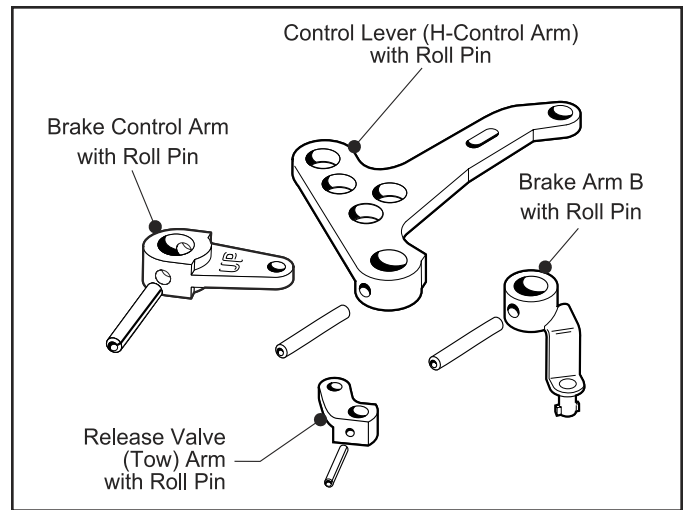

Fig. 4, Arms and Roll Pins
2. Remove the Roll Pin and the H-Control Arm from the Control Shaft. (Fig. 4)
3. Remove the Roll Pin and the Brake Arm from the Brake Shaft. (Fig. 4)
4. Remove the Roll Pin and Brake Arm "B" from Brake Arm "A". (Fig. 4)
5. Remove the Roll Pin and the (Tow) Release Valve Arm from the Bypass Shaft. (Fig. 4)